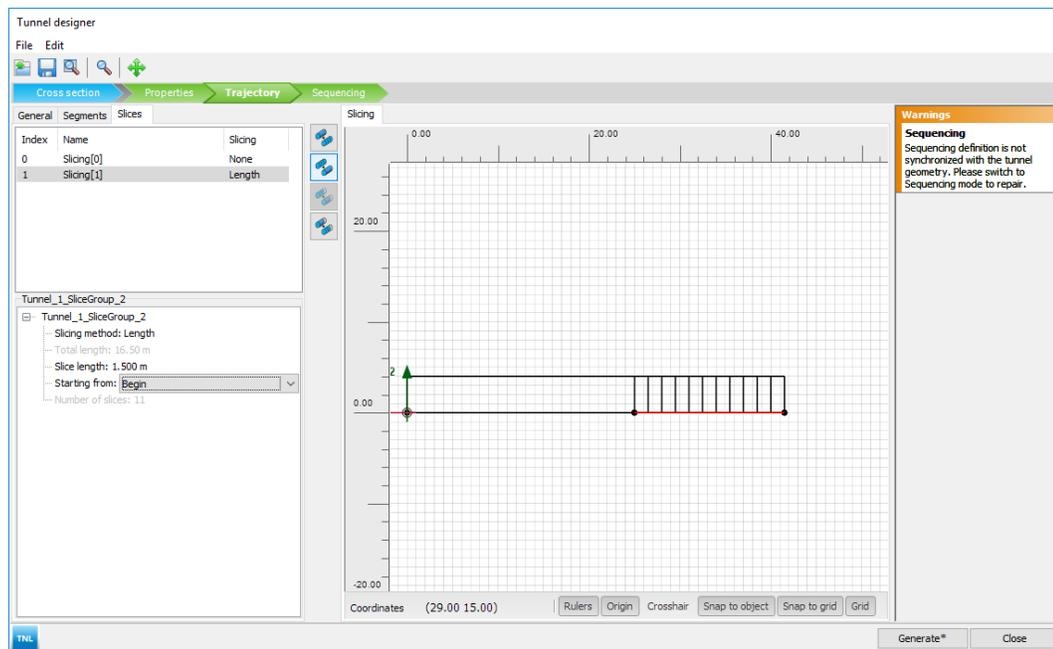

Figure 76: Trajectory tabsheet in the **Tunnel designer**
6. Click on the second created segment. In the properties box, select *Length* as the **Slicing method** and set the **Slice length** as 1.5m (Figure 76: Trajectory tabsheet in the Tunnel designer (on page 100)).